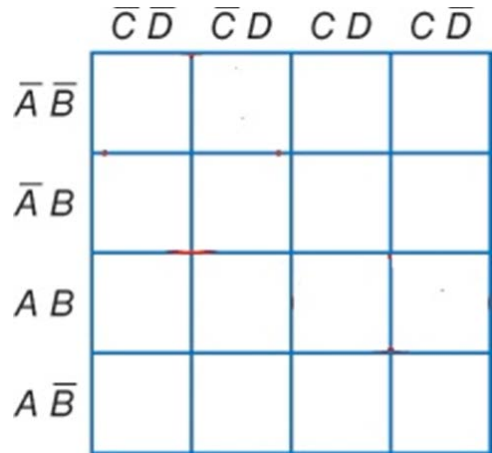

Figure 2
4.1. Use the Boolean equation with only NAND functions to complete a K-map in Figure 2. Add in the “don't care” states for decimal 10 and 11.
4.2. Derive the Boolean Equation from the K-map with the “don’t care” states in Figure 2.